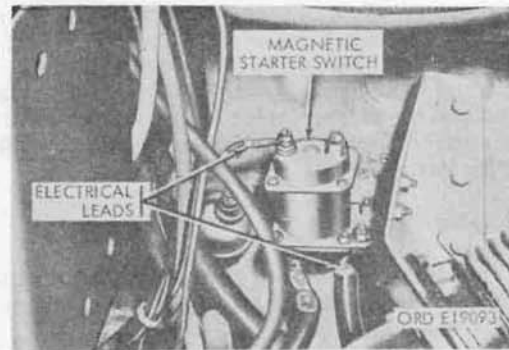

Figure 150. Magnetic starter switch - multifuel
- (1) Disconnect the electrical leads from the magnetic starter switch (fig. 150).